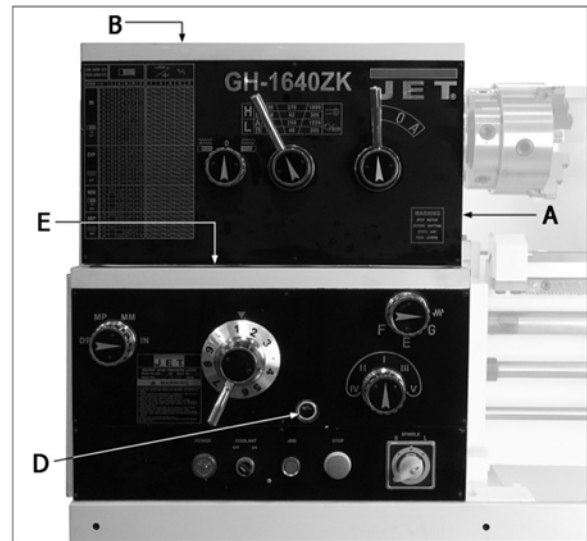
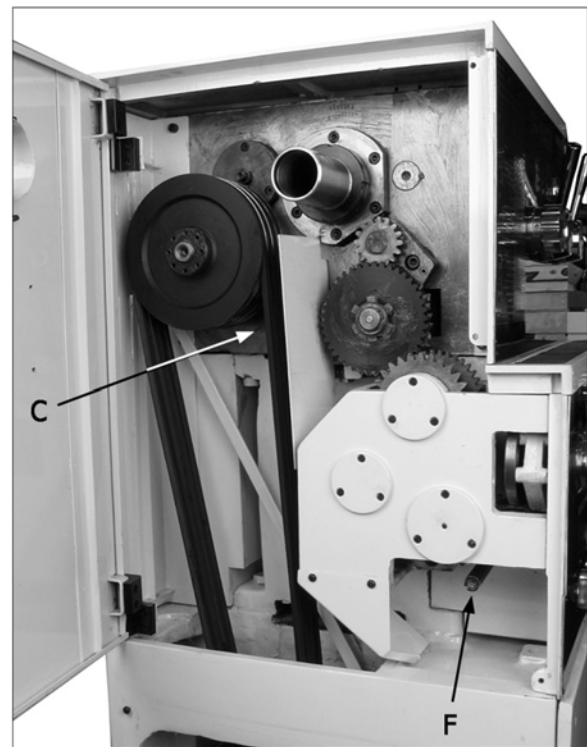

Figure 9 – Headstock lubrication
Figure 10 – Lubrication points
2. **Headstock** – Oil must be up to indicator mark in oil sight glass on right side of headstock (A, Figure 9). Top off with SAE 20W oil. Fill by removing the rubber mat and unscrewing the plug (B) on top of headstock.
To drain headstock, remove drain plug (C, Figure 10). Drain oil completely and clean out all metal shavings, then rinse the casting case with kerosene. Refill after the first month of operation, then change the oil in the headstock every two months.
3. **Gearbox** – Oil must be up to indicator mark in oil sight glass (D, Figure 9). Top off with SAE 20W oil. To add oil to the gearbox, remove rubber mat and unscrew oil plug (E, Figure 10). To drain, remove drain plug from the pipe (F, Figure 10). Drain oil completely and refill after the first three months of operation. Then change oil in the gearbox every six months.